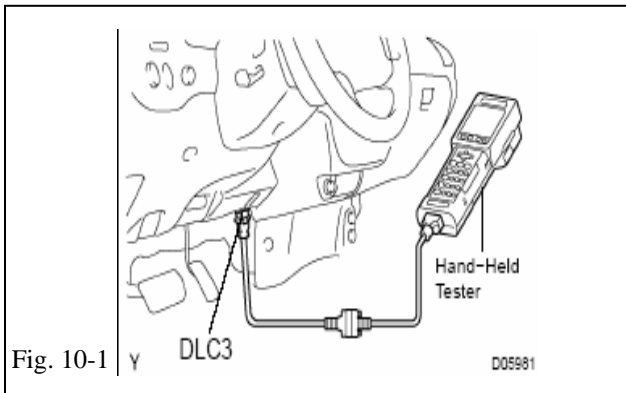

Fig. 10-1
- (b) Connect the hand-held tester to DLC3. (Fig. 10-1)
- (a) Connect the Techstream to DLC3, as in Fig. 10-1.